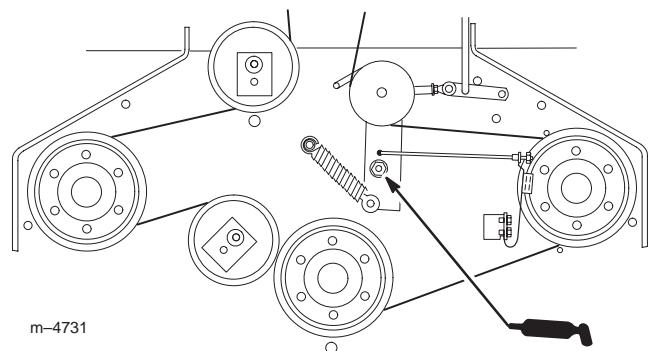

Figure 45
3. Lubricate the blade belt idler arm pivot. (Fig. 45). Lubricate every 50 hours.